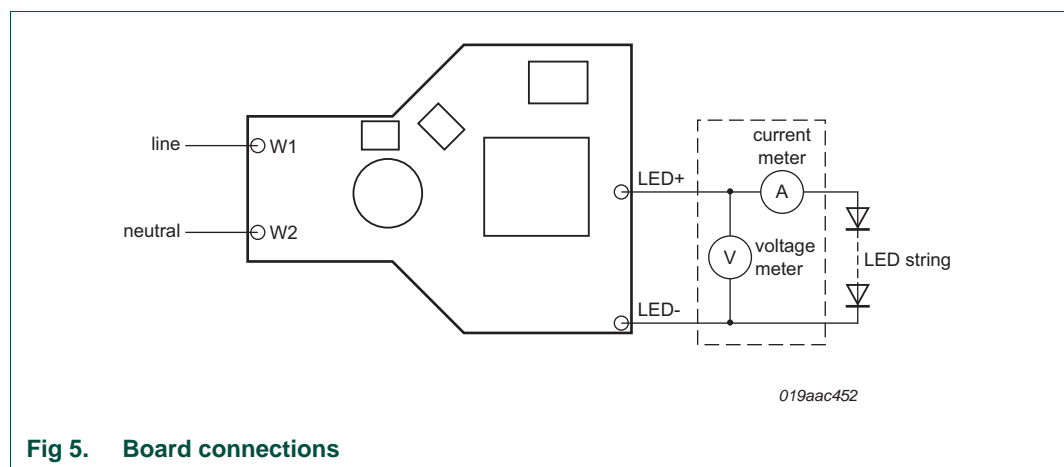

Fig 5. Board connections
The GU10 LED driver board supplied by 120 V (AC) 60 Hz mains supply supports either a 5-LED or a 7-LED load. Setting up the board for evaluation is as shown in Figure 5, where input pins W1 and W2 must be connected to the AC input power (Line and Neutral), and an LED string in series with a current meter must be connected to the two output pins LED+ and LED-. Current comes out of pin LED+ and flows back to LED-. Therefore, the connection must be made so that the current enters the LED string from the anode of the first LED and exits from the cathode of the last LED. A voltage meter must be placed directly across the two LED+ and LED- pins for a more accurate reading.
Remark: If the output current and voltage are correctly established, the current meter and voltage meter, as shown in Figure 5, can be removed and the LED string can be connected directly to the output pins LED+ and LED-.